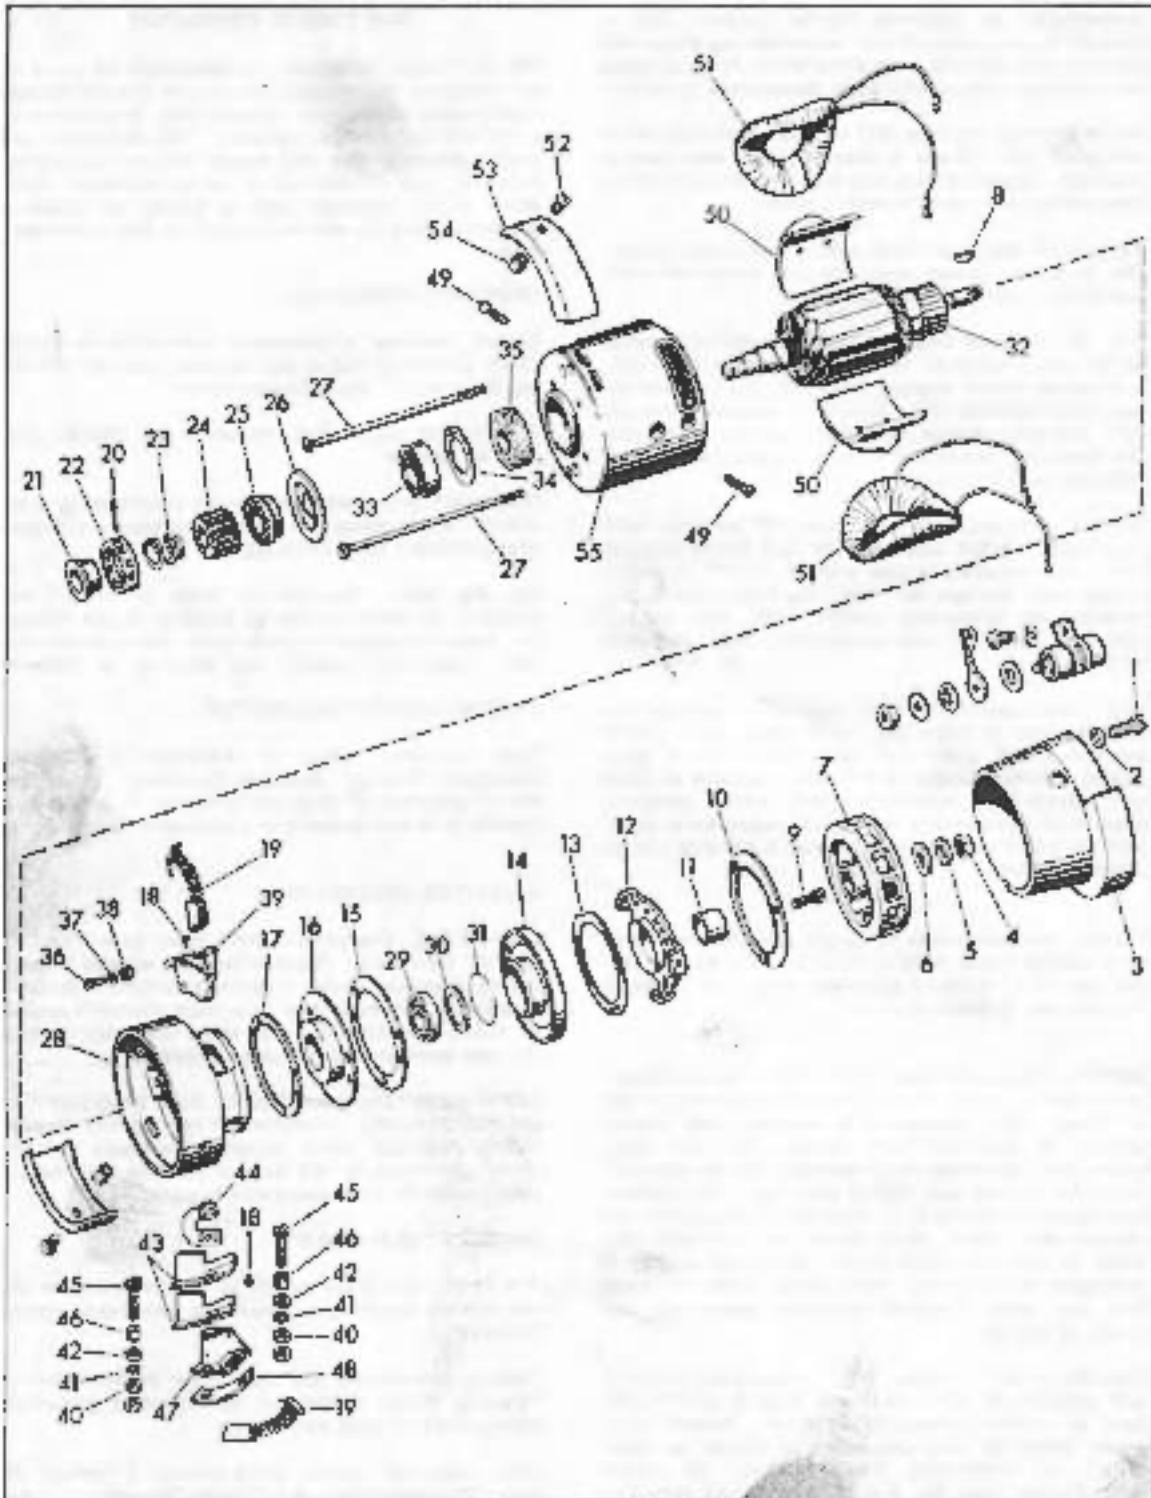

Figure 5E-7. Fan Cooled Generator
See Fig. 5E-7. Remove the three screws (1) and washers (2) securing the fan housing (3) and remove it. Inspect brushes to make sure they are not worn out, broken or gummy and sticking in holders.
LEGEND FOR FIGURE 5E-1